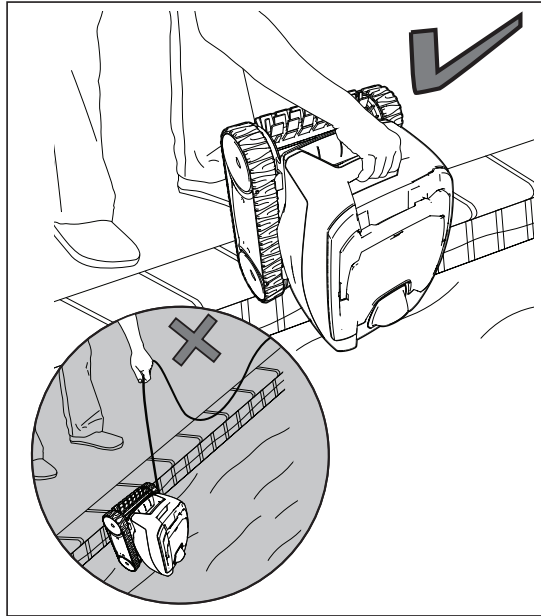

Figure 7. Lift Cleaner From Pool with Handle
2. Use the handle to lift the cleaner from the water (Figure 7).